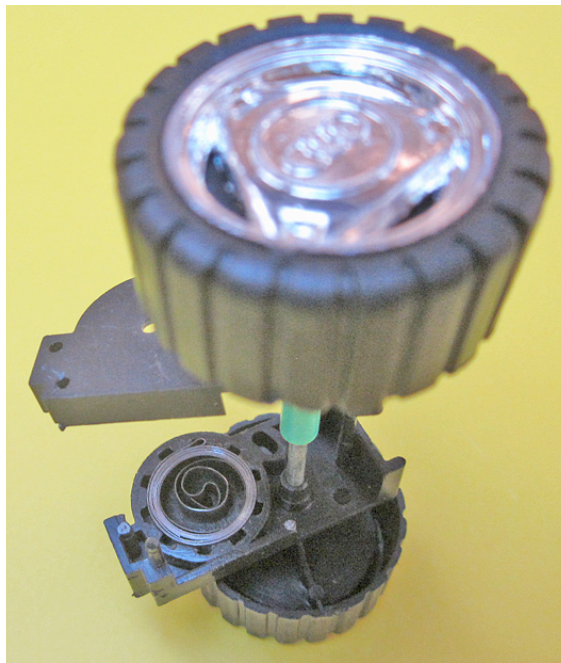

Figure 11: exposed spring of toy car
7. Once you've gotten the spring in its housing clearly visible, as in Figure 11, examine it carefully. Try to work out a description of what you see, and then try to describe what you think happens to the spring as the toy is subjected to the back-and-forth pullback winding process. What's that clicking noise? How is it made? How does it relate to the operation of the motor?